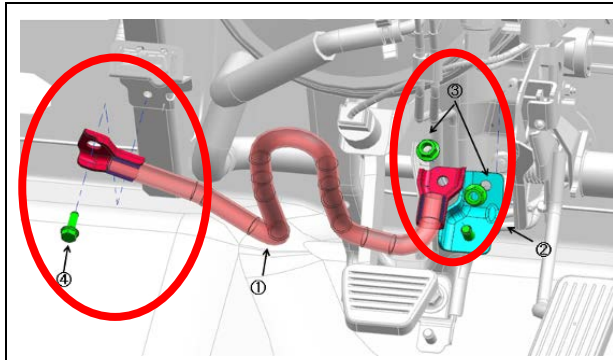
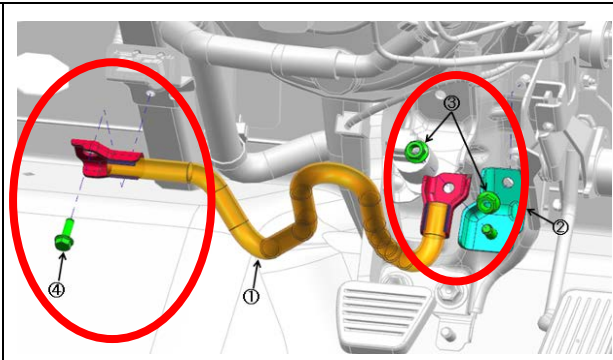

Figure 8 - 2012MY Bracket Installation Torque Locations (No. 3 and 4)
Figure 9 - 2013-2014MY Bracket Installation Torque Locations (No. 3 and 4)
3. Install the brake lamp switch protector (See Figure 8 for 2012MY or Figure 9 for 2013-2014MY).